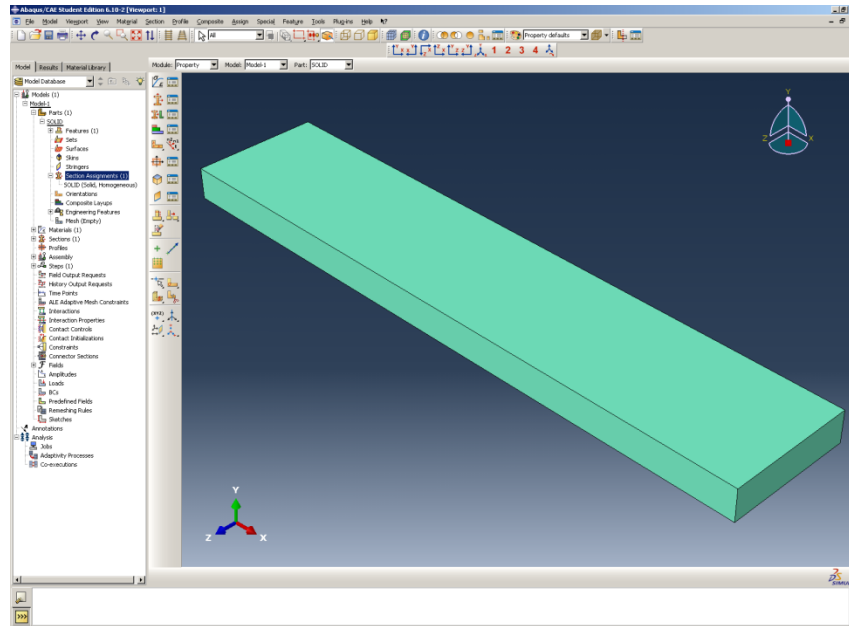

Figure 12. Assigned Section
- Click **OK**. The model now should now turn to a turquoise color (Figure 12).